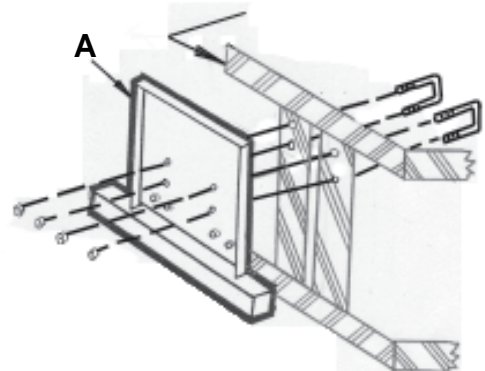

### FIGURE 1-1
TO FASTEN CHANNEL CLAMP (A) TO MOUNT PLATE (B) USE (4) 3/8"-16 x 1" HEX BOLTS (#K1191) AND (4) 3/8"-16 FLANGE NUTS (#K1215). USE FIGURE 1-1 TO PLACE BOLTS.
TO MOUNT MOUNT PLATE (A) TO THE MOWER FRAME USE (2) 3/8"-16 x 3" U-BOLTS (#K1118) AND (4) 3/8"-16 FLANGE NUTS (#K1215). USE FIGURE 1-1 TO PLACE BOLTS.